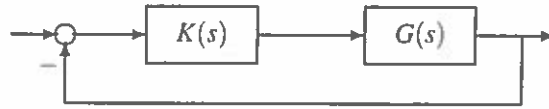
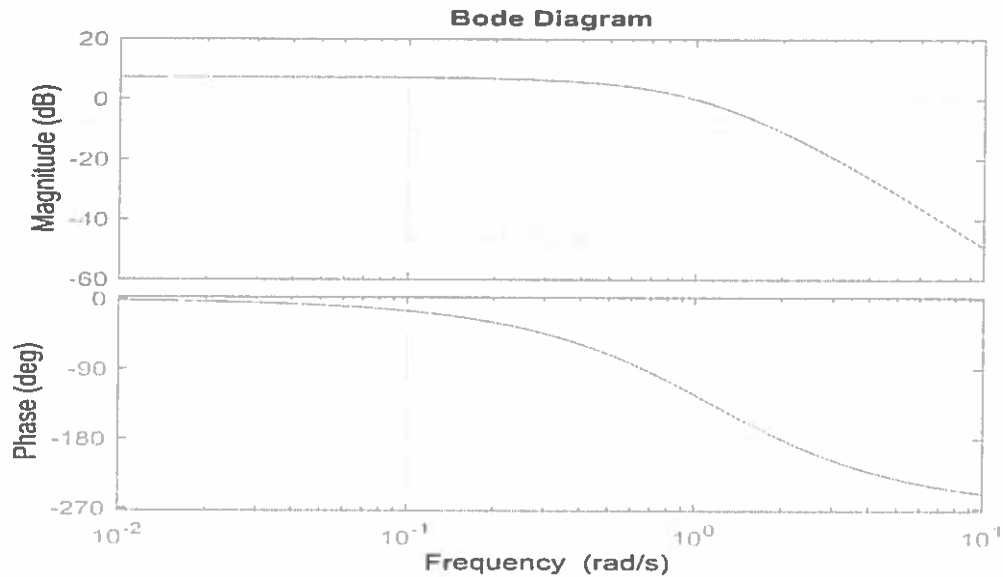

Figure 2.1
Figure 2.2
2. Consider the feedback control system in Figure 2.1 below. Here, $K(s)$ is the transfer function of a compensator while $G(s)$ is a stable transfer function with no finite zeros whose frequency response is shown in Figure 2.2.